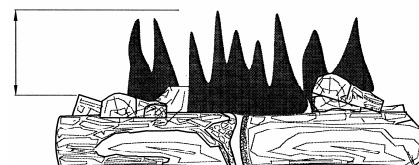

Figure 21 – Incorrect Burner Flame Pattern
- Figure 21 shows an incorrect burner flame pattern.
- If burner flame is incorrect: as shown in Figure 21. Turn heater off (see To Turn Off Gas to Appliance) see Troubleshooting, Page 20-22.